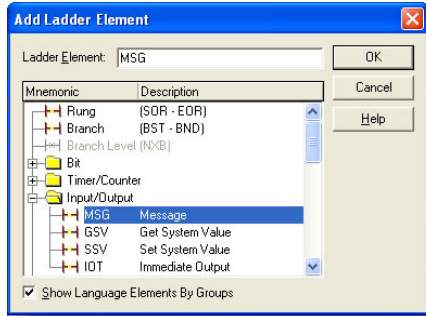

Figure 103: Adding a MSG Instruction
- Select the "MSG" instruction in the Input/Output folder. Refer to Figure 103.